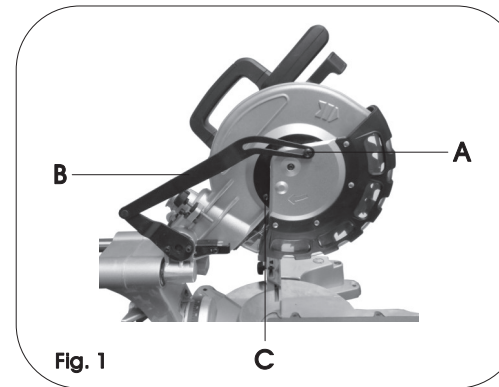

Fig. 1
- Pull on the saw head release knob (26) and turn it through 90° to lock it "open"
- lift the operating handle (4) to its full height.
- Unscrew and remove large screw (A) Fig.1, and move the blade guard pivot link arm (B) out of the way.
- Unscrew and remove pan head screw (C) which fixes the guard plate and lower blade guard to the upper blade guard.